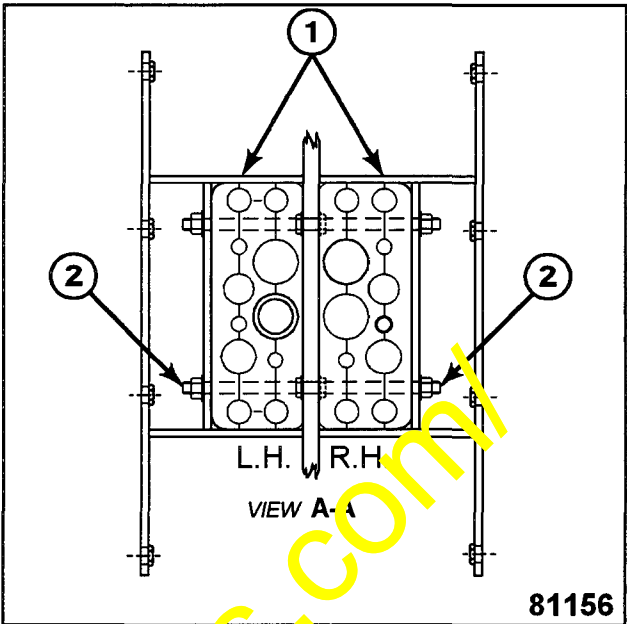

Figure 3
- 3. Mount 1436596H1 brackets (1) as shown in Figure 3. *Note: Left side must be mounted first.* Reposition hoses and 3-piece hose clamp to their original positions; mount bracket with hardware removed in step 1.
- 4. Mount 1436643H1 rubber baffle (2) to rear frame angle (6), after positioning baffle in frame as shown in Figure 3, with 1 - 1436642H1 plate, 2 - 180126 bolts, 2 - 25709R1 flat washers, and 2 - 120377 hex nuts (7). (Hardware for top and bottom holes only.) If you were able to drill all 4 holes, install remaining 2 bolts, washers, and nuts. If you weren't able to drill other two holes, drill as close as possible thru frame, baffle and mounting plate. Secure with remaining bolts, washers, and nuts. Repeat for other side of machine.
- 5. Mount other end of rubber baffle (2) to 1436596H91 bracket (1) with 1 - 1436642H1 plate (3), 4 - 180124H bolts, and 4 - 25709R1 flat washers (4). Use mounting holes in baffle with 3" edge towards front of machine (5). Repeat for other side of machine.